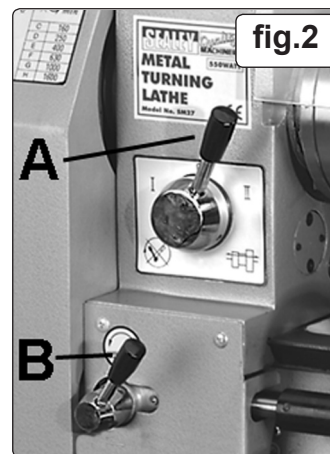

fig.2
- 4.1.1. Check that the forward/reverse switch is in the forward position (fig.1.9) and that the leadscrew lever (fig.2.A) is on zero.
- 4.1.2. Set the automatic feed lever (fig.2.B) to disengaged - turn clockwise.
4.7.3. Set the speed and forward/reverse switch to suit the job. The leadscrew lever (fig.2.A) should be at position O.
4.8.1. Proceed as in 4.7. but in 4.7.3. set the leadscrew lever (fig. 2.A) to I or II. With the gear set as supplied, position I will feed the tool at 0.075mm/rev and position II at 0.15mm/rev (see Auto Feed for Turning, fig.7). Ensure that the cross slide lock (fig.1.8) is not applied.
4.8.3. Turn the auto feed lever (fig.2.B) anticlockwise to engage the leadscrew. The tool will now move to the left and begin cutting.
- 4.9.8. With the tool positioned for the first cut, ensure that the automatic feed is engaged (fig.2.B) and that the leadscrew lever (fig.2.A) is set to I or II as required for the thread.
- 4.9.12. Reposition the tool for the second cut by moving the forward/reverse switch (fig.2.C) to reverse and starting the lathe. When the tool clears the start of the thread switch off the lathe.